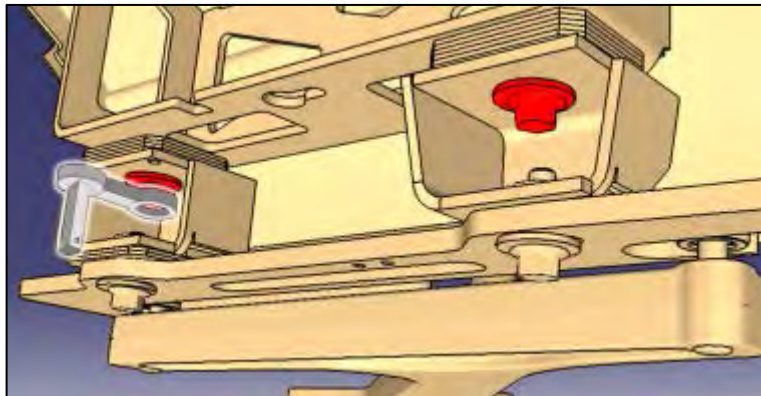

Figure 41
61. Inspect torque seal. (Figure 41)